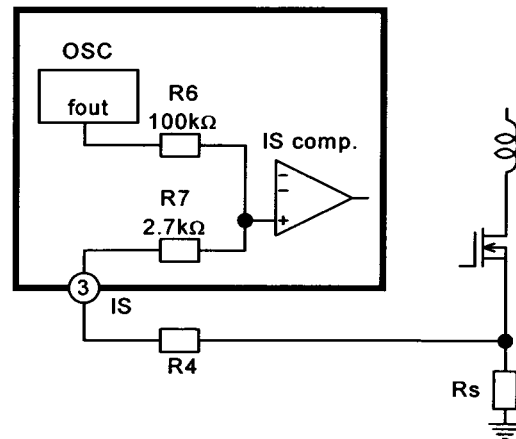
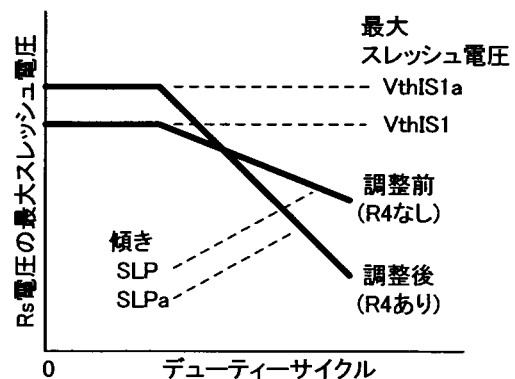

Fig.32 Adjustment of slope compensation
Fig.33 Maximum threshold voltage after adjustment
**(6) Slope compensation**
As described in "9-(6) Slope compensation," slope compensation is implemented by adding a ramp signal generated from the oscillator to IS pin voltage using resistors 100kΩ and 2.7kΩ as shown in Fig.32. Adding R4 can change the magnitude of slope compensation as shown in Fig.33.